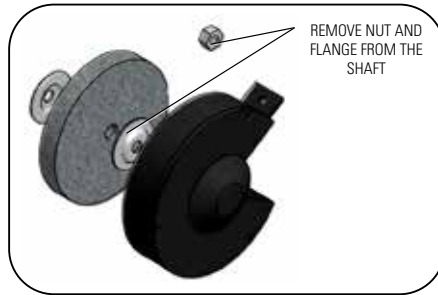

FIGURE 9.3
3. Holding the grinding wheel firmly, remove the nut and flange from the shaft with a 19-mm open end wrench. Figure 9.3. Note that the nut on the left side of the grinding wheel has left-handed thread and the right side has right-handed thread;